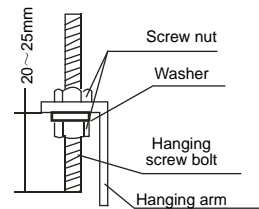
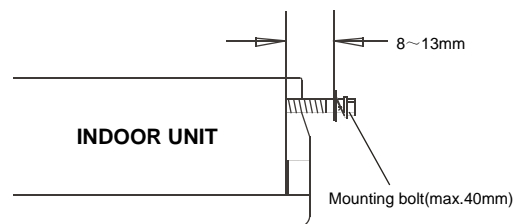

Fig. 4-11
Fig. 4-12
- Locate the hanging arm on the hanging screw bolt. (Refer to Fig. 4-11) Prepare the mounting bolts on the unit. (Refer to Fig. 4-12)